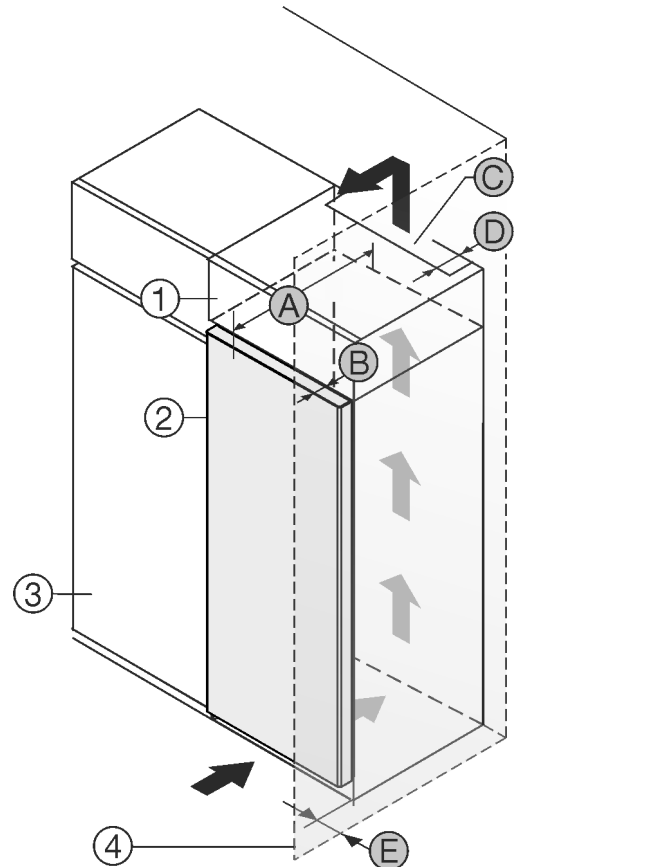

Fig. 1
There must be a ventilation shaft at the depth Fig. 1 (D) of the back of the top cupboard over the entire width of the top cupboard.\*
The ventilation cross-section Fig. 1 (C) must be maintained under the ceiling.\*
If the appliance is set up with the hinges next to a wall Fig. 1 (4), the distance between the appliance and the wall must be at least 13 mm.\*
If the appliance is set up with the hinges next to a wall Fig. 1 (4), the distance between the appliance and the wall must be at least 20 mm.\*
In order to be able to fully open the door, the appliance must protrude by the depth of the door Fig. 1 (B) from the front of the kitchen cabinet. The appliance may protrude further depending on the depth of the kitchen cabinets Fig. 1 (3) and whether wall spacers are used.\*